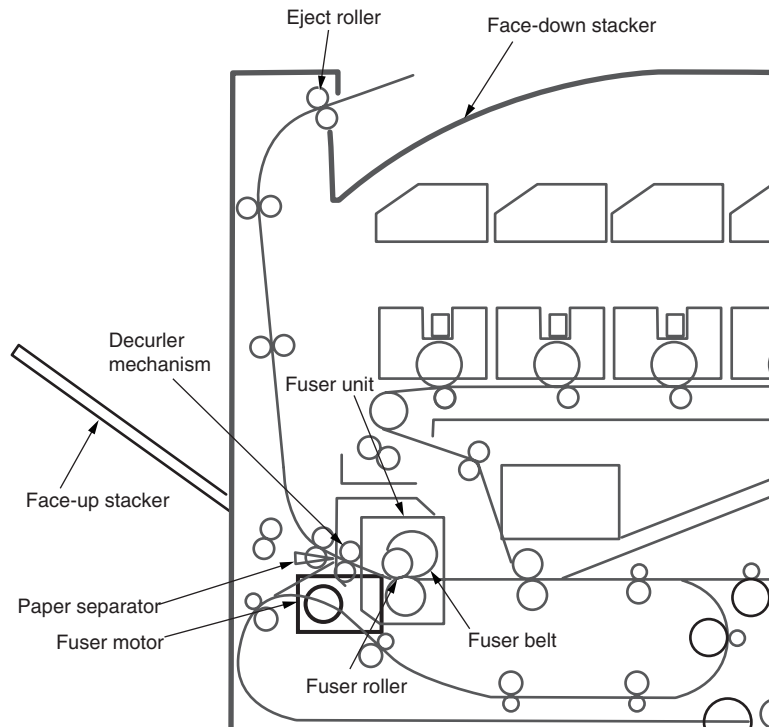

Figure 2-8
1. As illustrated in Figure 2-8, the fuser unit and the eject roller are driven by the DC motor. As the fuser motor drives (counterclockwise), the Fuser roller rotates. And then, the fuser belt rotates. This roller fuses toner images by heat and pressure.